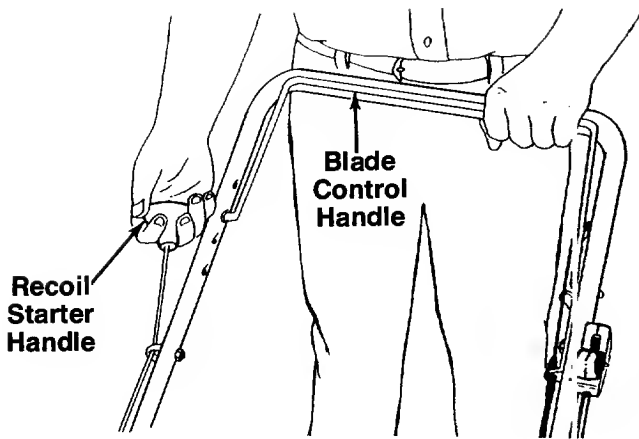

FIGURE 10.
5. Standing behind the unit, depress the blade control handle and hold it against the upper handle as shown. See figure 10.